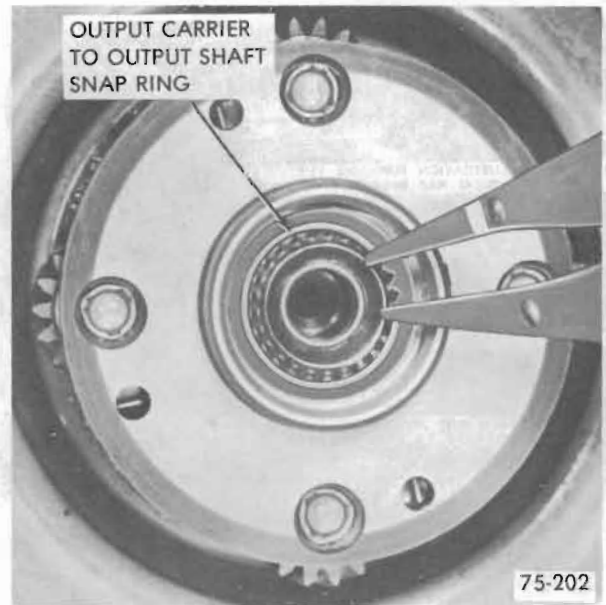

Figure 75-239
**CAUTION:** Use new snap ring and do not over stress on installing. USE PROPER SNAP RING PLIERS. See Figure 75-239.
**NOTE:** Washer has three (3) tangs.